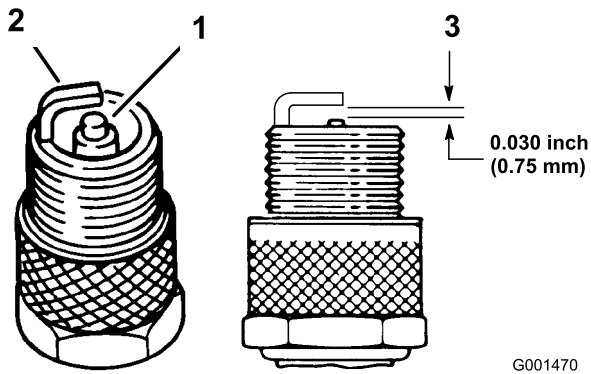

Figure 31
- Look at the center of the spark plugs (Figure 31). If you see light brown or gray on the insulator, the engine is operating properly. A black coating on the insulator usually means that the air cleaner is dirty.
- Check the gap between the center and side electrodes (Figure 31). Bend the side electrode (Figure 31) if the gap is not correct.
- Connect the wires to the spark plugs (Figure 31).